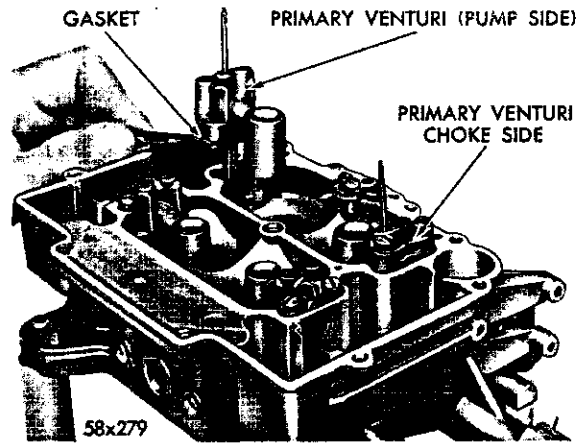

Fig. 5—Removing the Primary Venturi
(4) Remove the screws that attach the primary venturi (choke and pump side) to the main body. Lift the venturi straight up and away from the main body, as shown in Figure 5. Discard the gaskets.
(5) Place new primary venturi gaskets in position, then install the primary venturi (pump and choke side) by lowering straight down on the gaskets. (See Fig. 5). Install attaching screws and tighten securely.